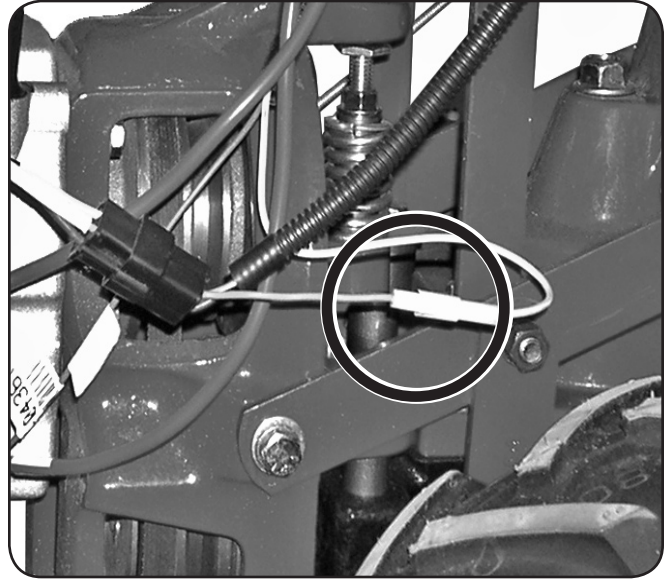

Figure 3-4
2. Connect the safety wire assembly (green and yellow wires). See Fig. 3-4.